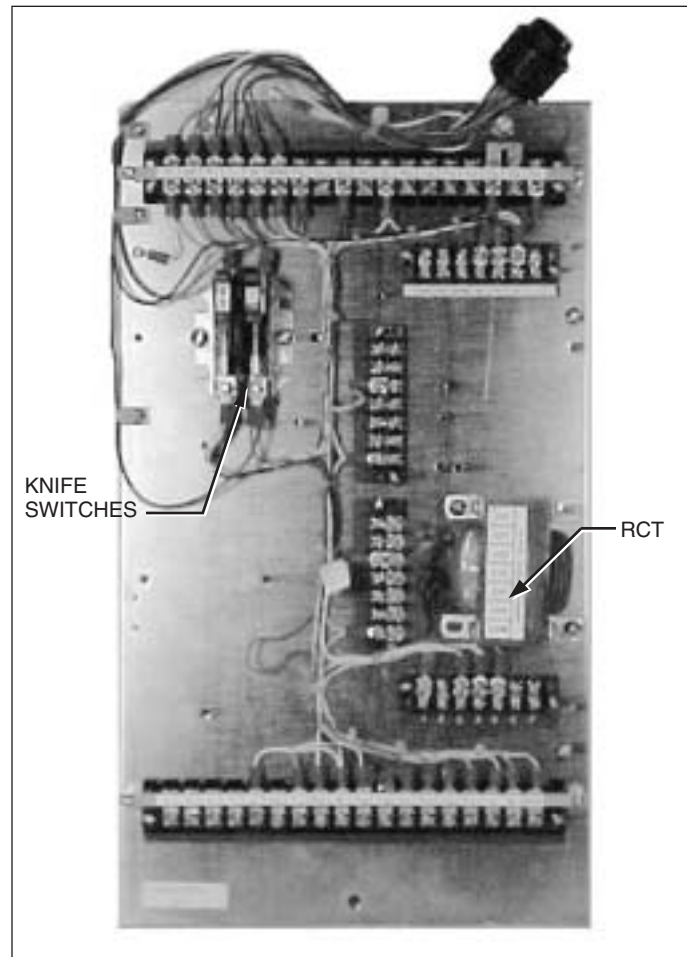

Figure 1-6.
3. Knife switches on back panel should be set with V_1 (potential switch) (and V_6 if present) closed (pushed in), and C (CT shorting switch) open (pulled out). See Figure 1-6.
4. Close source-load (SL) disconnect switch if available.
5. Close source (S) disconnect switch.
9. Close load (L) disconnect switch.
3. Knife switches on back panel should be set with V_1 (potential switch) (and V_6 if present) open (pulled out), and C (CT shorting switch) closed (pushed in). See Figure 1-6.